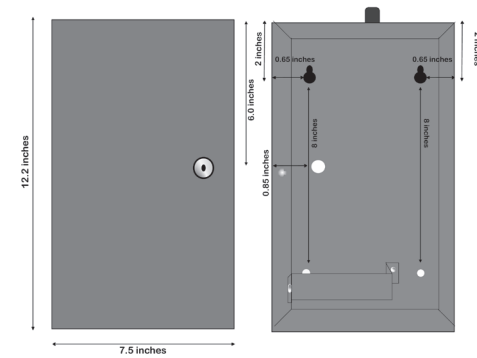

FIGURE 2:
Position the bottom of the 2550-CF enclosure where it will be installed. Use four (4) #6 screws and mount the unit using the four holes in the enclosure's back. The 2550-CF unit's dimensions are shown in Figure 2.